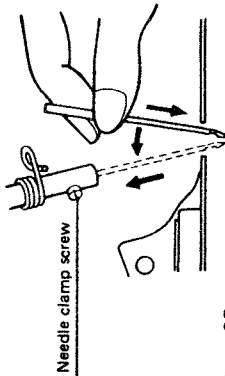

Figure 25
- (1) For needle installation, first turn the fly-wheel so as to raise the needle bar up as far as it will go.
- (2) Next, loosen the needle clamp screw (Figure 25, 26), insert the tip of the needle into the needle drop hole (Figure 25) on the presser first, and secondly insert the needle completely deep into the needle hole of the needle clamp.
- (3) Firmly tighten the needle clamp screw.